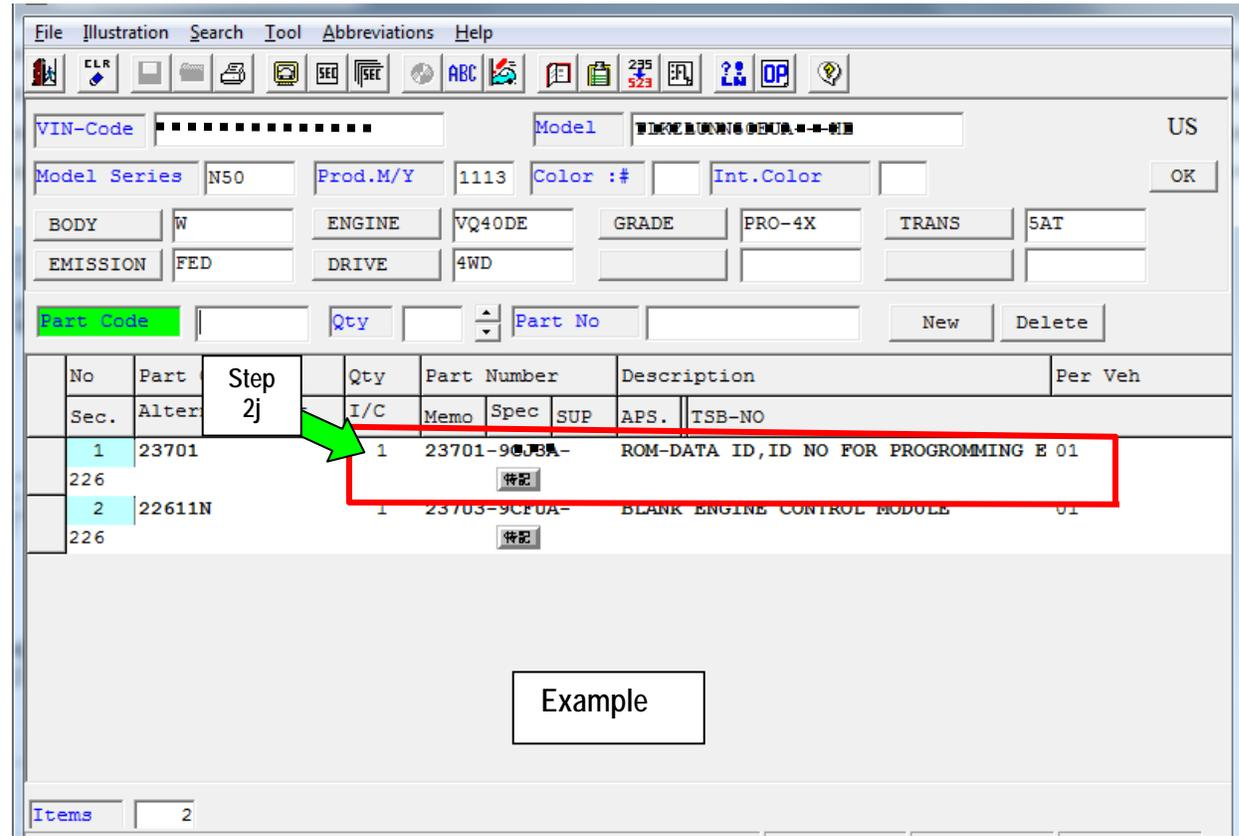

Figure 5a
j. From the screen show in Figure 5a, write down the ECM software P/N listed for **ROM-DATA ID, ID NO FOR PROGRAMMING**.